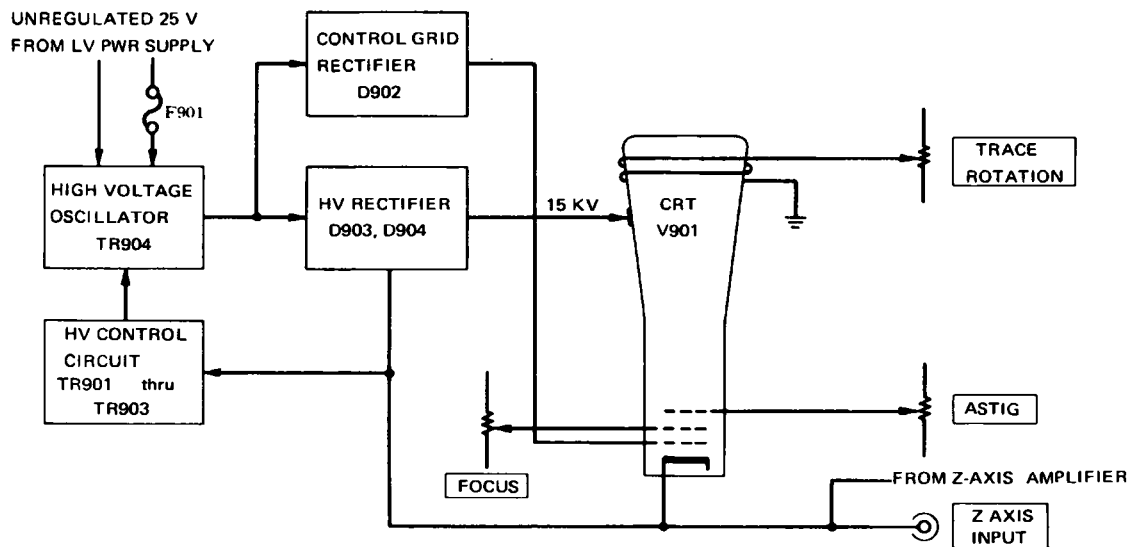

Figure 3-28 High Voltage Power Supply Block Diagram
n. CRT Circuit (Schematic 14). The CRT circuit consists of a high-voltage anode power supply and control grid power supply, together with CRT geometry adjustments. Figure 3-28 is a block diagram of the circuit.